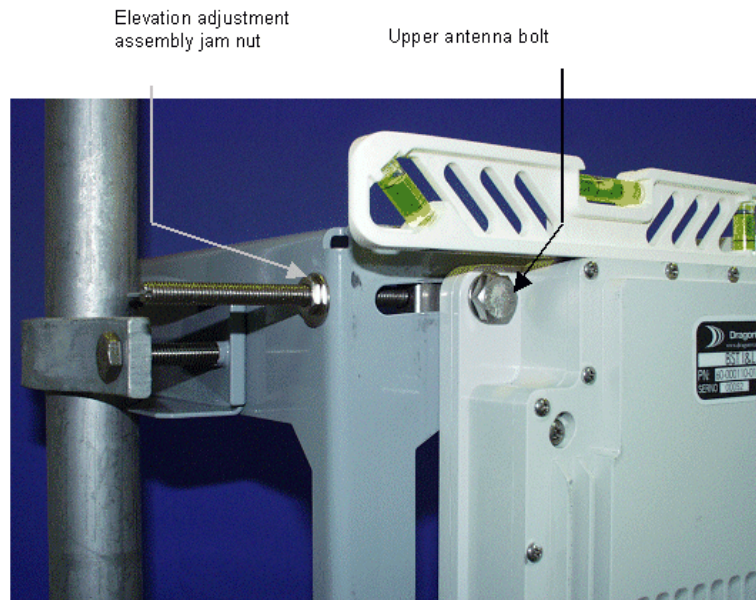

Figure 5-9: Adjusting the Elevation
1. Obtain the elevation tilt angle from the System Planner. Referring to Figure 5-9, place a spirit level on the top surface of the antenna. Adjust the elevation tilt (jam nut) until the required angle is achieved.